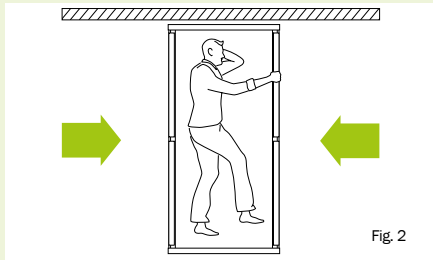

Fig. 2
2. Flexible access from both sides of the bed in case of increased need for care (fig. 2)